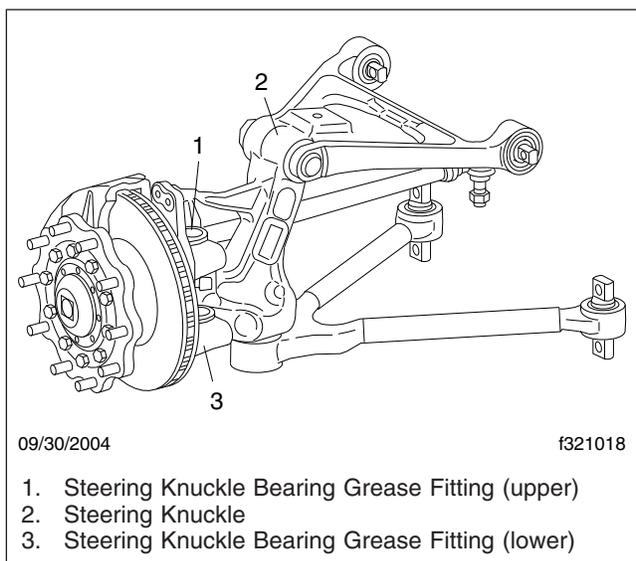
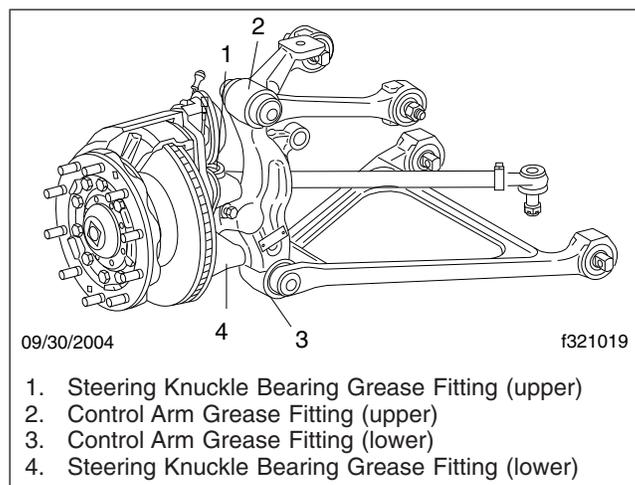

Fig. 4, Pressure Grease Fitting Positions, RL-75E
Fig. 5, Pressure Grease Fitting Positions, RL-75EM
3. Lubricate the steering knuckle/control arm at indicated maintenance intervals. Use only an NLGI Grade 2 lithium-based grease, multipurpose grease, or mineral oil on the lubricating points. See **Fig. 4** and **Fig. 5**.